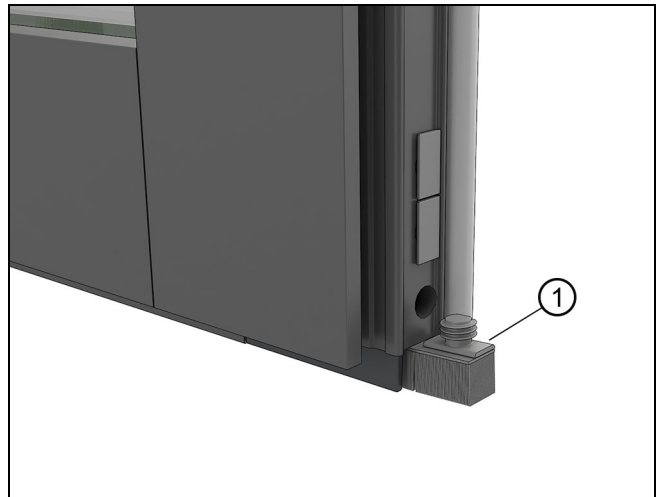

Figure 188
4. On inactive panels meeting stile side, pry the lower plug and dust cover down to reveal the adjustment hole. See Figure 188.